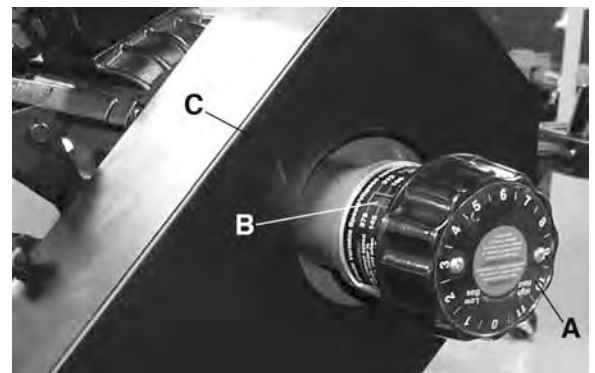

FIGURE 4
The cutting speed is controlled by the variable speed dial (A) Fig.4. Turn the dial clockwise to decrease the cutting speed or counterclockwise to increase the cutting speed. Refer to the speed meter (B) for speed setting. Always change cutting speed while the machine is on and make sure the belt/pulley cover (C) is always installed.